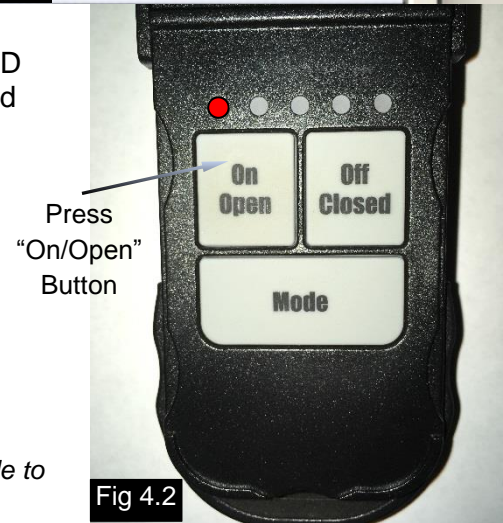

Fig 4.2
2. To program a remote, open the flip style lid and make sure the remote is set to mode one (first light flashing). See figure 4.2